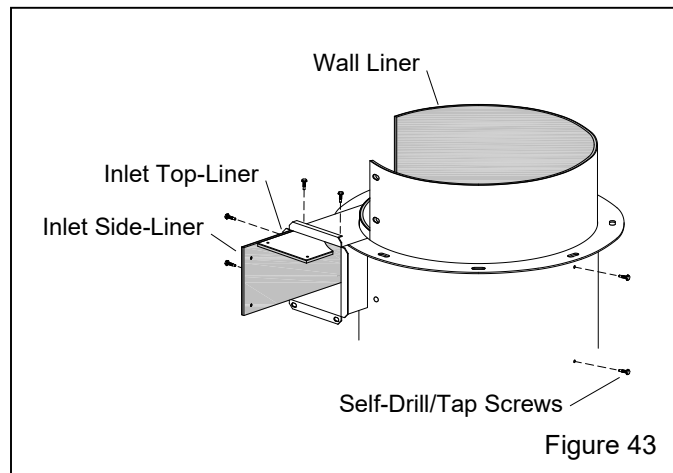

Figure 43
7.11.11 Remove the screws holding the inlet side liner and inlet top liner, and remove both liners from the reclaimer inlet, as shown in Figure 43.